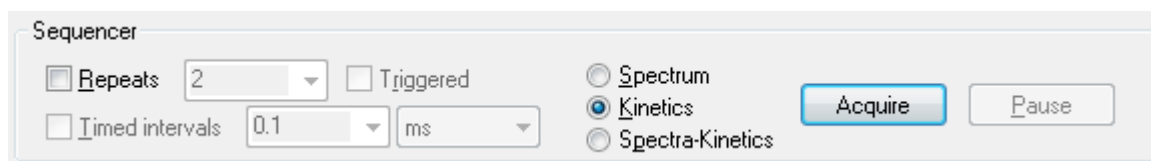

Figure 2-34: the Sequencer panel for kinetics fluorescence emission
2) Now ensure that **Kinetics** mode is selected on the **Sequencer** panel (Figure 2-34)